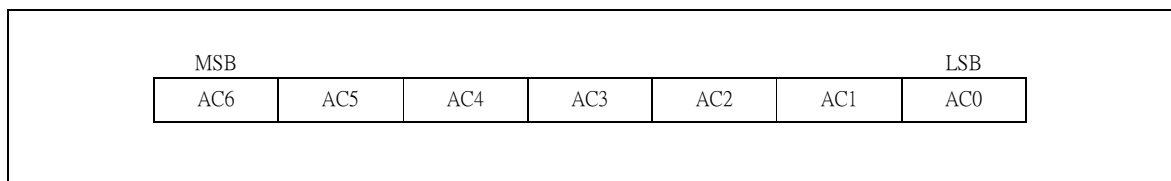

Figure 1. DDRAM Address
DDRAM stores display data of maximum 80 x 10 bits (80 characters). DDRAM address is set in the address counter (AC) as a hexadecimal number. (Refer to Figure 1.)